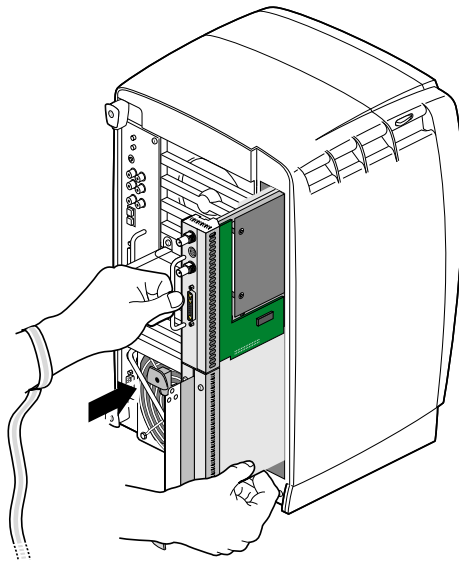

Figure 14 Inserting the XIO Tri-Module
Caution: Install the XIO Tri-Module with the VPro graphics I/O panel aligned with the top of the workstation, as shown in Figure 14. The board can be damaged if aligned with the bottom of the workstation.
3. Before you insert the XIO Tri-Module, make sure the sliding handles protrude in a locked position from the I/O panels, as shown in Figure 14.
If the sliding handles are flush with the I/O panels, the XIO Tri-Module will stop during insertion. Pull out the sliding handles until the sliding portion of the XIO Tri-Module looks like Figure 14.